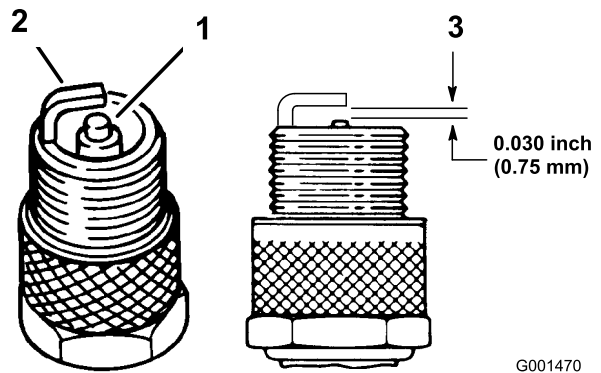

Figure 40
2. Check the gap between the center and side electrodes (Figure 40). Bend the side electrode (Figure 40) if the gap is not correct.
1. Look at the center of the spark plugs (Figure 40). If you see light brown or gray on the insulator, the engine is operating properly. A black coating on the insulator usually means that the air cleaner is dirty.